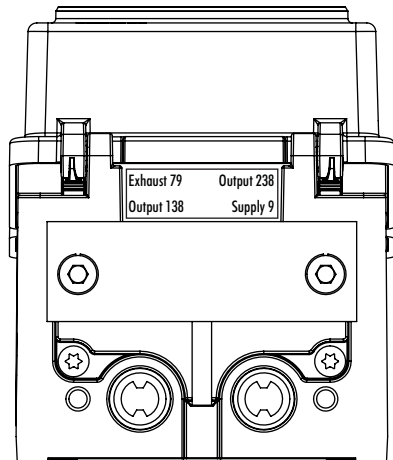

Fig. 5-32: Output 238 and Exhaust 79 sealed with dummy plate
- ➔ Seal Output 238 and Exhaust 79 with a dummy plate (see Fig. 5-32) if only one pneumatic output is available.
The signal at output 138 is used to control a single-acting pneumatic actuator. The outputs 238 and 79 are sealed (see Fig. 5-32). The air capacity can be doubled by using two pneumatic modules.
The signal at output 138 is used to control a single-acting pneumatic actuator. The outputs 238 and 79 are sealed (see Fig. 5-32). If the fail-in-place function is triggered, the pneumatic output of the positioner is closed and the actuator remains in its last position. This happens when the positioner changes to the **SAFE** mode (e.g. after the signal falls below 3.8 or 4.4 mA or when the forced venting is activated).